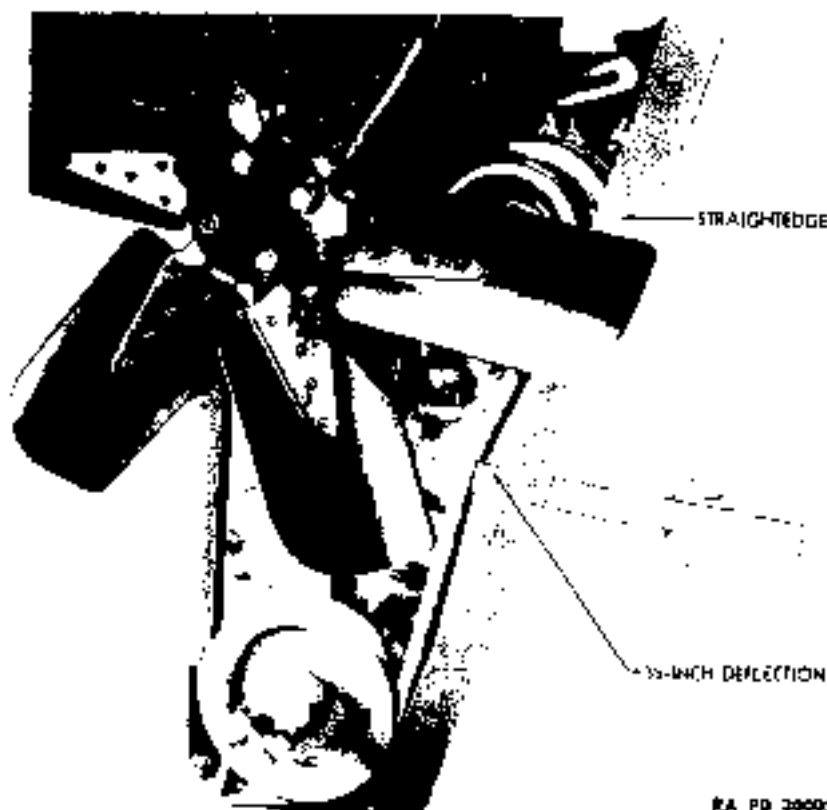
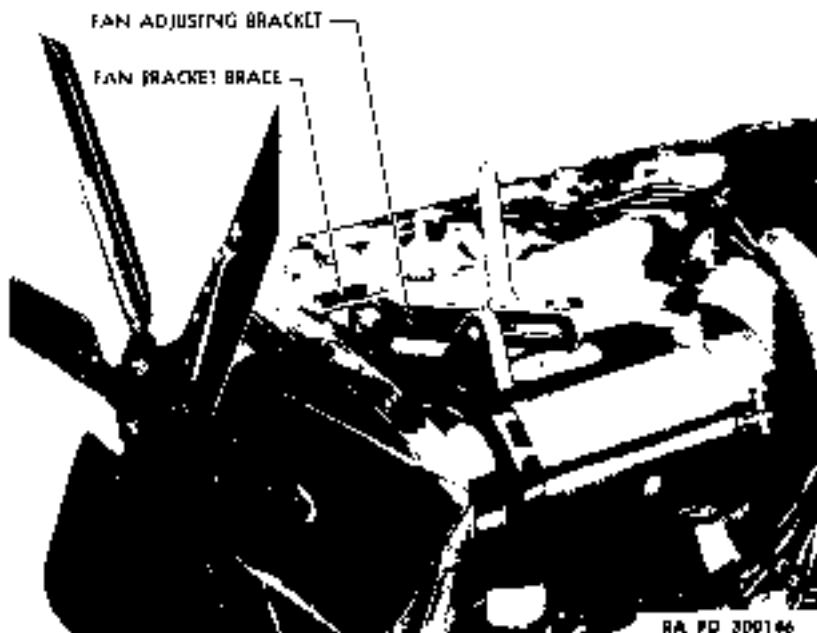

Figure 54—Measuring Fan Belt Deflection
Figure 55—Adjusting Fan Belt Tension
(1) **FAN BELT ADJUSTMENT.** Loosen two generators to mounting bracket bolt nuts and then loosen generator to adjusting arm bolt (fig. 55). Move generator toward, or away from, engine as necessary to obtain correct belt tension. A light pressure on belt at a point midway between crankshaft and fan pulley must cause a $\frac{1}{4}$ - to $\frac{3}{4}$ -inch deflection (fig. 54). Do not adjust belt too tight. Tighten generator to adjusting arm bolt and then tighten the two generator to mounting bracket bolt nuts.